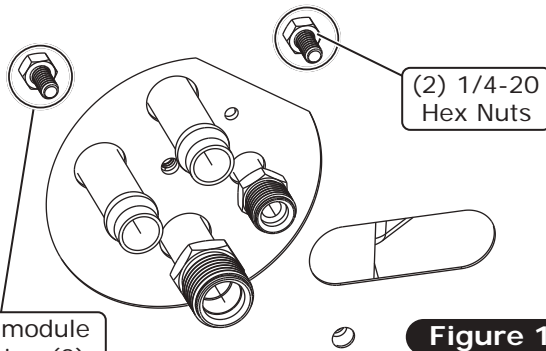

Figure 1
- Lift the evaporator module into position, using the (2) 1/4-20 full-threaded studs to locate the correct mounting position, then secure with (2) 1/4-20 hex nuts (See Figure 1, below).